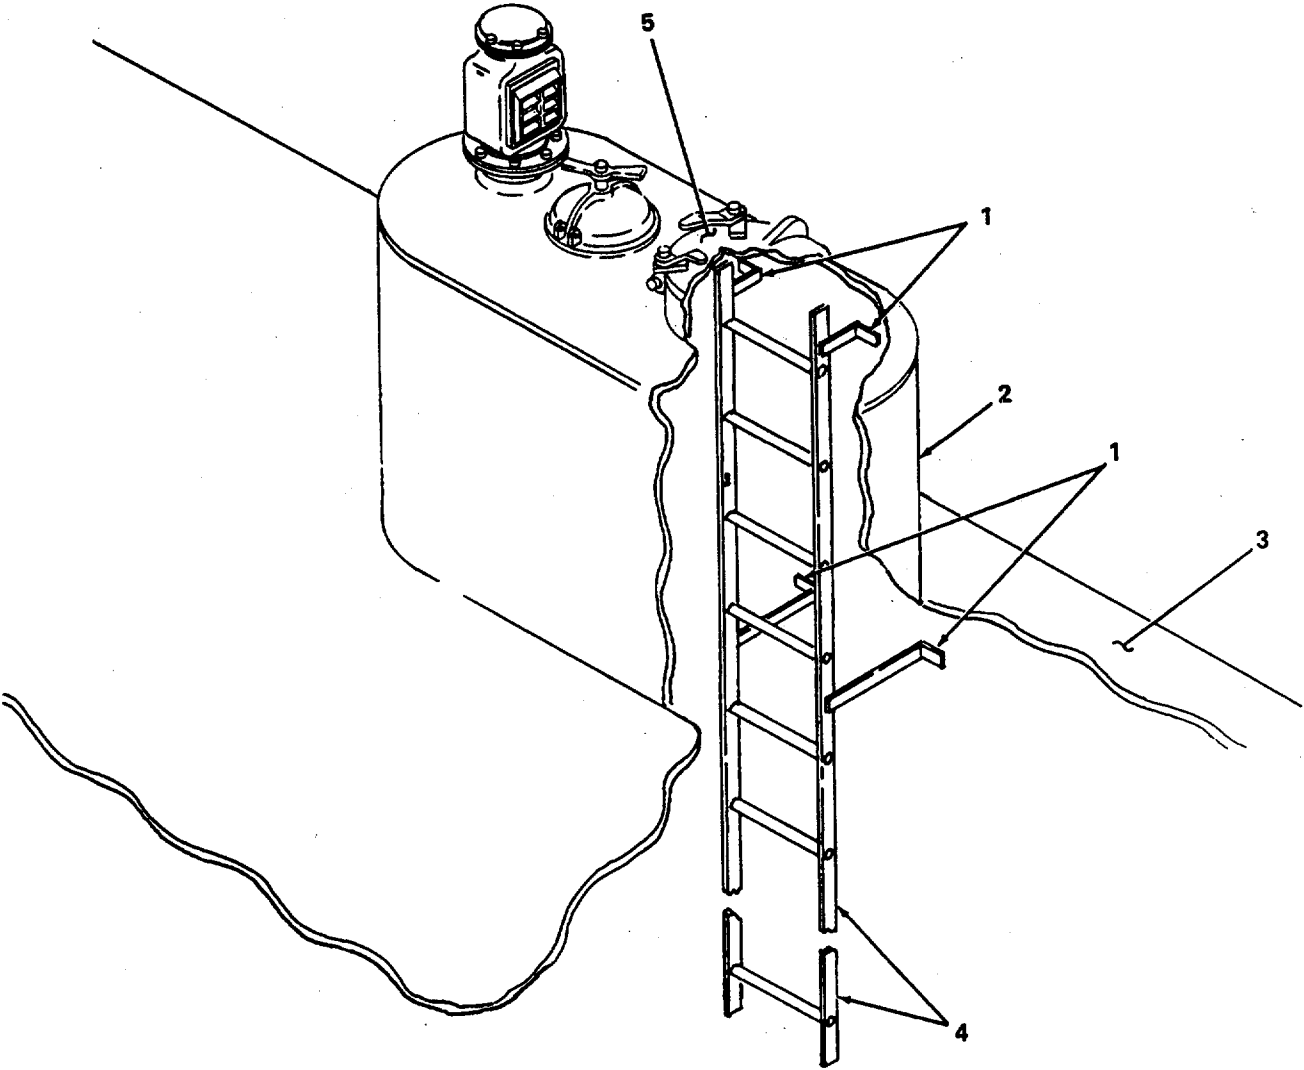

Figure 6-1. Ladder Replacement.
- (1) Using torch, cut ladder supports (1, figure 6-1) free from structural members inside ullage tank (2) and cargo compartment (3).
- (2) Remove ladder (4) through hatch (5).
- (3) Lower replacement ladder (4) through hatch (5).
- (4) Position ladder supports (1) on structural members inside ullage tank (2) and cargo compartment (3) and weld in place.